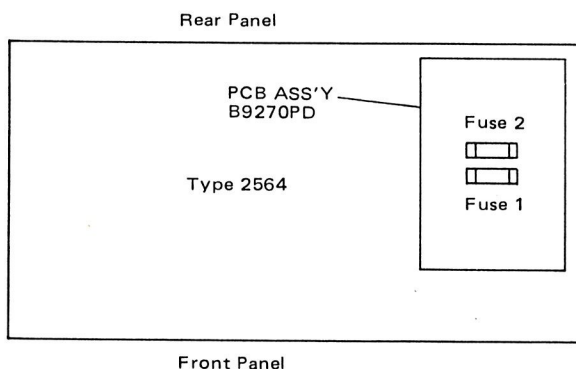

Figure 4-1.
- (1) Always turn the POWER switch OFF and unplug the power cords from the instrument.
- (2) Remove four fixing screws on the instrument side panels to open the top cover. Check if fuse  $F_1$  or  $F_2$  (2 A slow blow fuse on the PCB Ass'y: B9270PD is blown.
- (3) If either  $F_1$  or  $F_2$  fuses is blown, replace it with a spare fuse. Figure 4-1. shows the location of the fuses  $F_1$  and  $F_2$ .